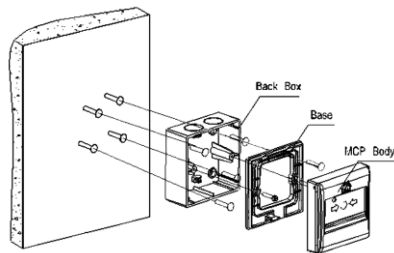
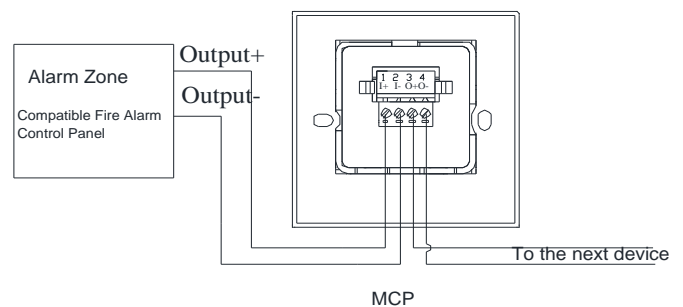
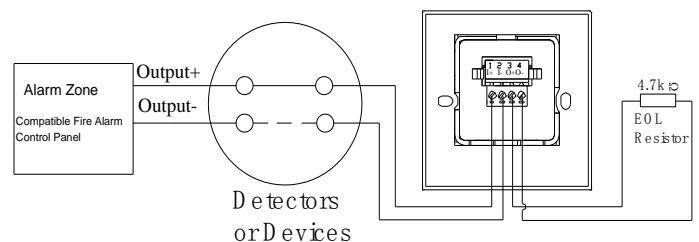

Fig. 1
Fig. 3
Fig.4
First install the back box onto the wall using 4 screws, then install the base onto the back box. Connect cables to corresponding terminals as Fig.4. Hook the juts of the MCP body to the base, and then press the part below the action plate to combine them completely. Fig. 1 shows surface mounting.
- ✧ Application of the MCP is shown in Fig. 3 & Fig.4